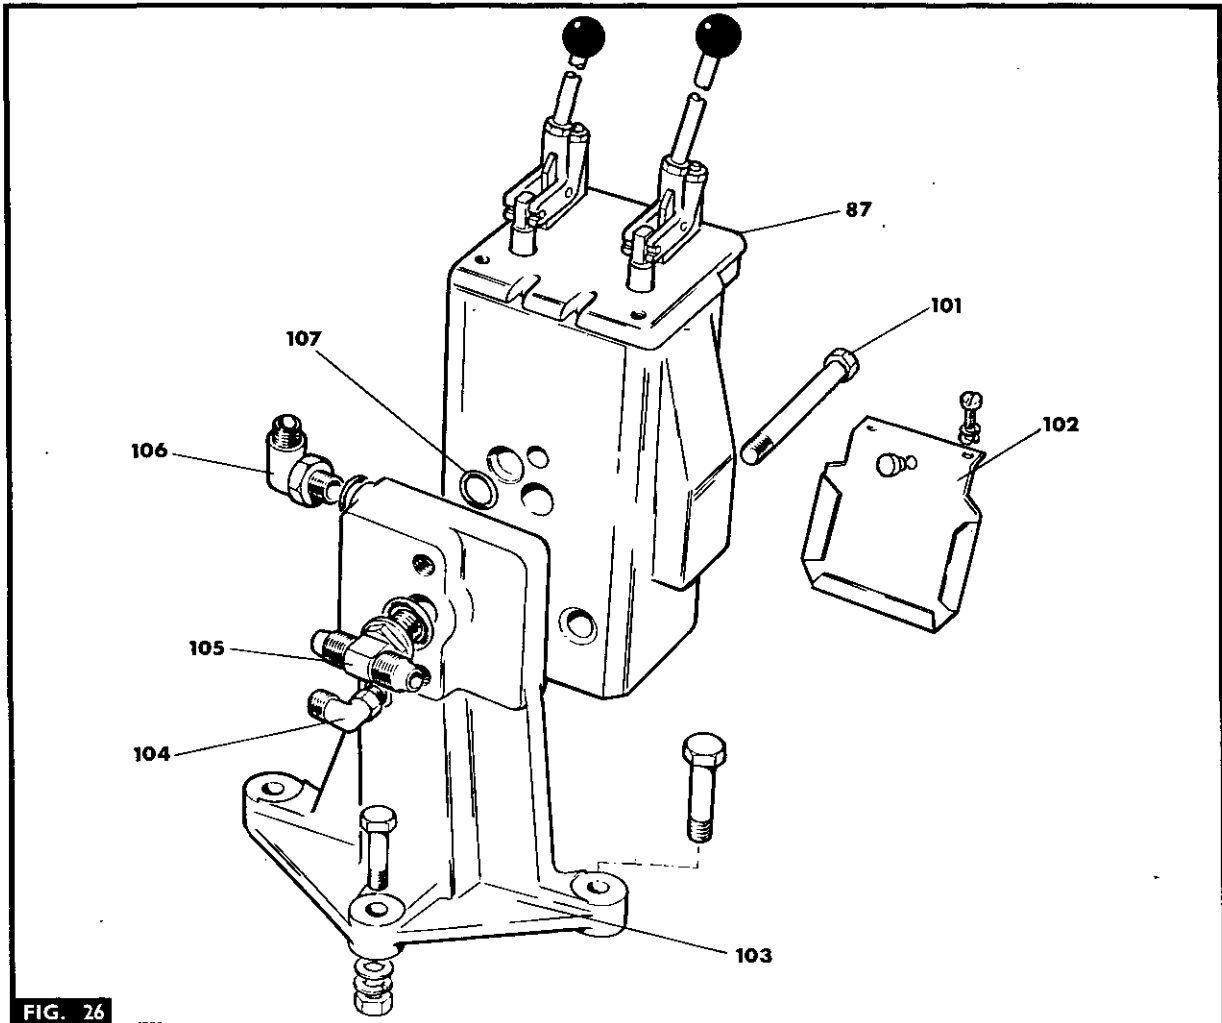
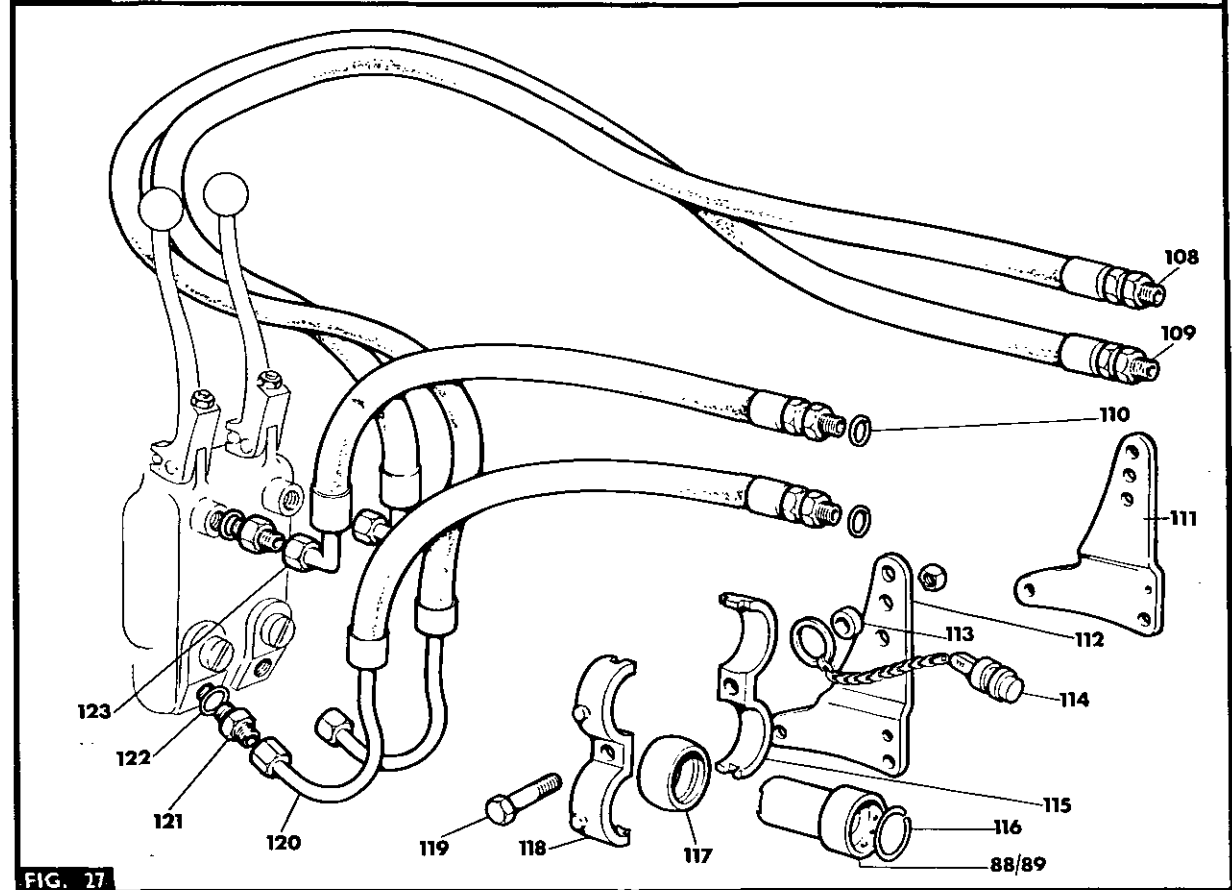
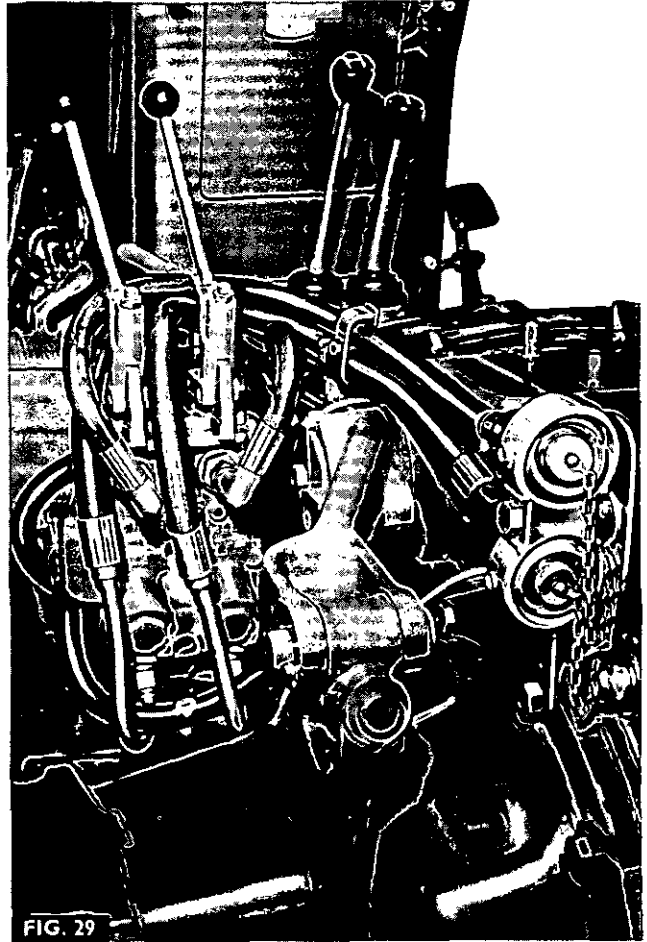

FIG. 26
FIG. 27
FIG. 29
15. Fig. 26. Clean the front face of spool valve (87) and the mating face of the manifold (103), then fit an 'O' ring (107) to each of the three ports on the valve body. Place the body and manifold together and fit the two Allen screws (101) to secure them.
16. Fit an 'O' ring to the tee-piece (105), then screw the tee-piece into the upper hole on the front of the manifold.
17. Fit an 'O' ring to the smaller 90° elbow (104) then screw the elbow into the lower hole in the front of the manifold.
18. Fit an 'O' ring to the larger 90° elbow (106), then screw the elbow into the side of the manifold.
**NOTE** – THE TEE-PIECE AND THE ELBOWS MUST, WHEN FULLY SCREWED IN, FACE IN THE DIRECTIONS SHOWN IN FIG. 26.
19. Fit the plate (102), securing it with two screws, plus flat and spring washers. Press in the rubber grommet.
20. Figs. 27 and 28. Place the spool valve, front face downwards on a bench, then fit the four adapters (121) using 'O' rings (122) to the four tapped ports in the valve body.
21. Fit the four hoses as follows: Short hose with 90° connector (123) to 'DROP No. 1', Long hose with 90° connector to (108) to 'DROP No.2'; Short hose with curved connector (120) to 'LIFT No.1'; and the long hose with the curved connector (109) to 'LIFT No. 2'.
22. Slide a 'Pioneer' coupler (88/89) into each gimbal ring (117) and secure them with the snap rings (116).
23. Using an 'O' ring (110) for each, screw the 'Pioneer' couplers on to the hoses.
24. Fig. 29. Assemble the 'Pioneer' couplers in pairs, with two clamps (115 and 118), a spacer (113) and a pair of plugs and chains (114) per side. Slide the bolt (119), through the clamps and spacer, then locate the plug chain rings over the spacer, before bolting the assembly to the brackets (111 and 112), through the middle hole in the bracket.
**NOTE** –THE BRACKETS (111 AND 112) ARE 'HANDED' (LEFT AND RIGHT) AND THE TWO SHORT HOSES MUST BE FITTED TO THE L.H. BRACKET (112). ALSO, THE HOSES WITH THE 90° CONNECTORS MUST BE PLACED IN THE UPPER CLAMP SOCKETS.
29. Fit the feed pipe (127) connecting it to the union (54) on the combining valve and to the tee-piece (105) on the manifold.
30. Connect the feed pipe (95) (rear connector on side cover) to the tee-piece (105), as shown.
31. Connect the return pipe (96) to the 90° elbow (106) on the side of the manifold.
33. Fig. 29. Locate the 'Pioneer' coupler support brackets (111 and 112) on the studs on the trumpet housings, then refit the bolts and nuts.
35. Fig. 29. Fit the sealing plugs (114) to each of the 'Pioneer' couplers.